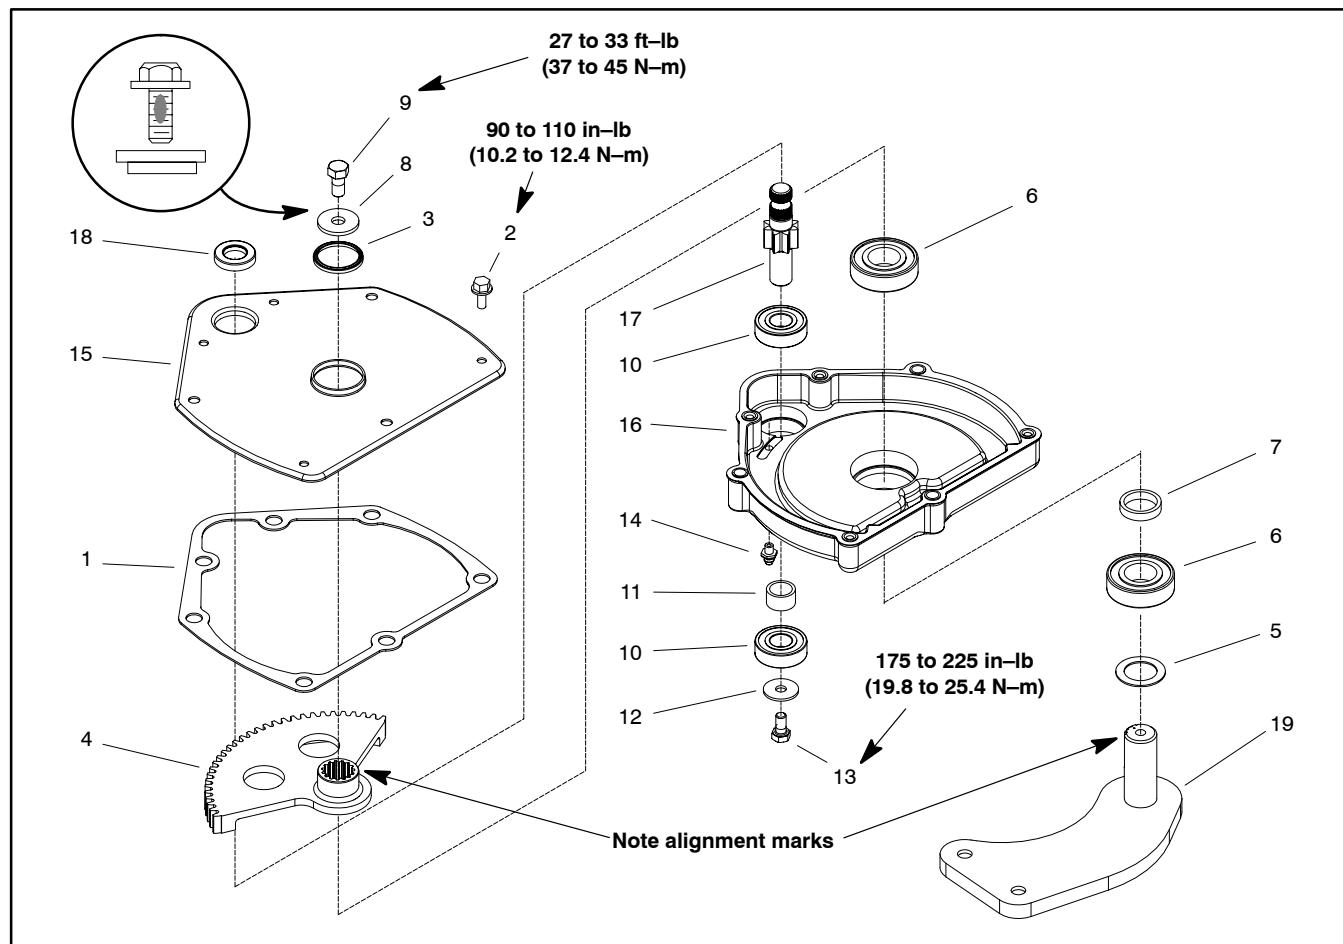

Figure 2
Disassembly (Fig. 2)
Assembly (Fig. 2)
8. Secure flange head screw with patch lock (item 9) and step washer (item 8) to the Pitman arm. Make sure to position step washer as in Figure 2. Torque screw from 27 to 33 ft-lb (37 to 45 N-m).
9. Secure cap screw (item 13) and flat washer (item 12) to the pinion gear shaft. Torque cap screw from 175 to 225 in-lb (19.8 to 25.4 N-m).